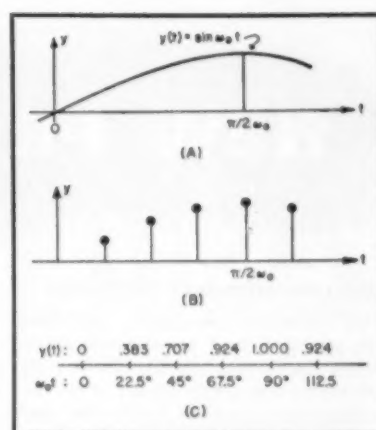

Fig. 2. The process of sampling. (A) A continuous function of time. (B) Result of periodic pulsing. (C) Sampled function displayed digitally.
The process of sampling is illustrated in Fig. 2. Part (A) shows a continuous function of time, which may be displayed on an oscilloscope. The height of the luminous line above the base line is the analog of $y(t)$. If the grid of the cathode-ray tube is pulsed on periodically, the sampled display of part (B) results. In part (C), the same sampled function is expressed digitally.